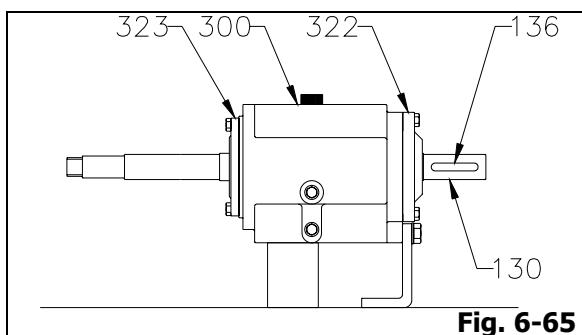

Fig. 6-65
15. Install drive end bearing cover (322) assembly (not available for open type impeller) and pump end bearing cover (323) assembly into bearing frame (300). Align lubrication passages and bolt holes and install eight (8) (for closed impeller) or four (4) (for open type impeller) bearing cover bolts into bearing cover(s). Tighten bolts evenly.
16. Install shaft end key (136) on shaft (130) (Fig. 6-65)